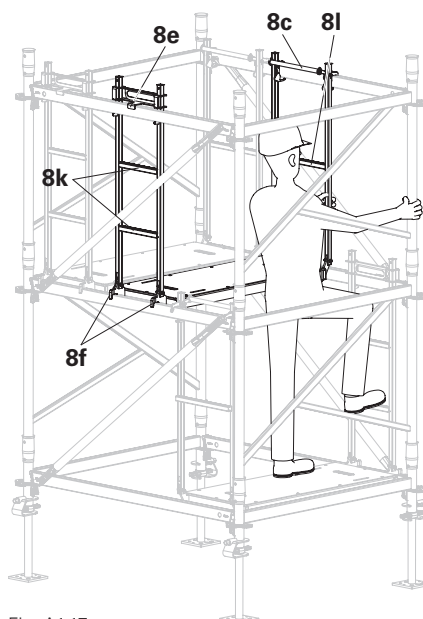

Fig. A1.17
3. Move the other decks by following points 1 +2. (Fig. A1.17)